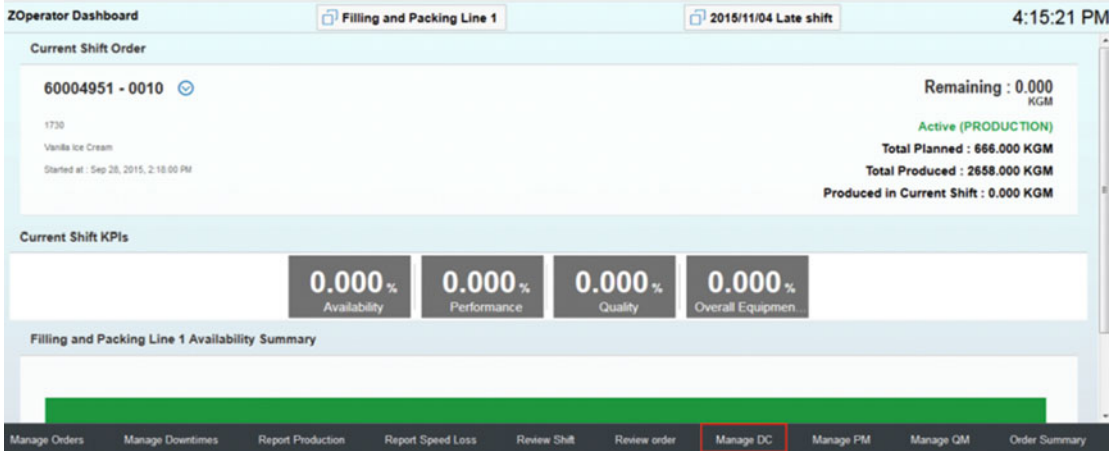

Figure 7-28. Standard dashboard with custom dashboard button
- The added button will be visible in the OEE dashboard. Refer to Figure 7-28. Selection of this custom button will navigate to the custom UI, and you can also navigate back to the home page of the standard dashboard. Refer to Figure 7-28.